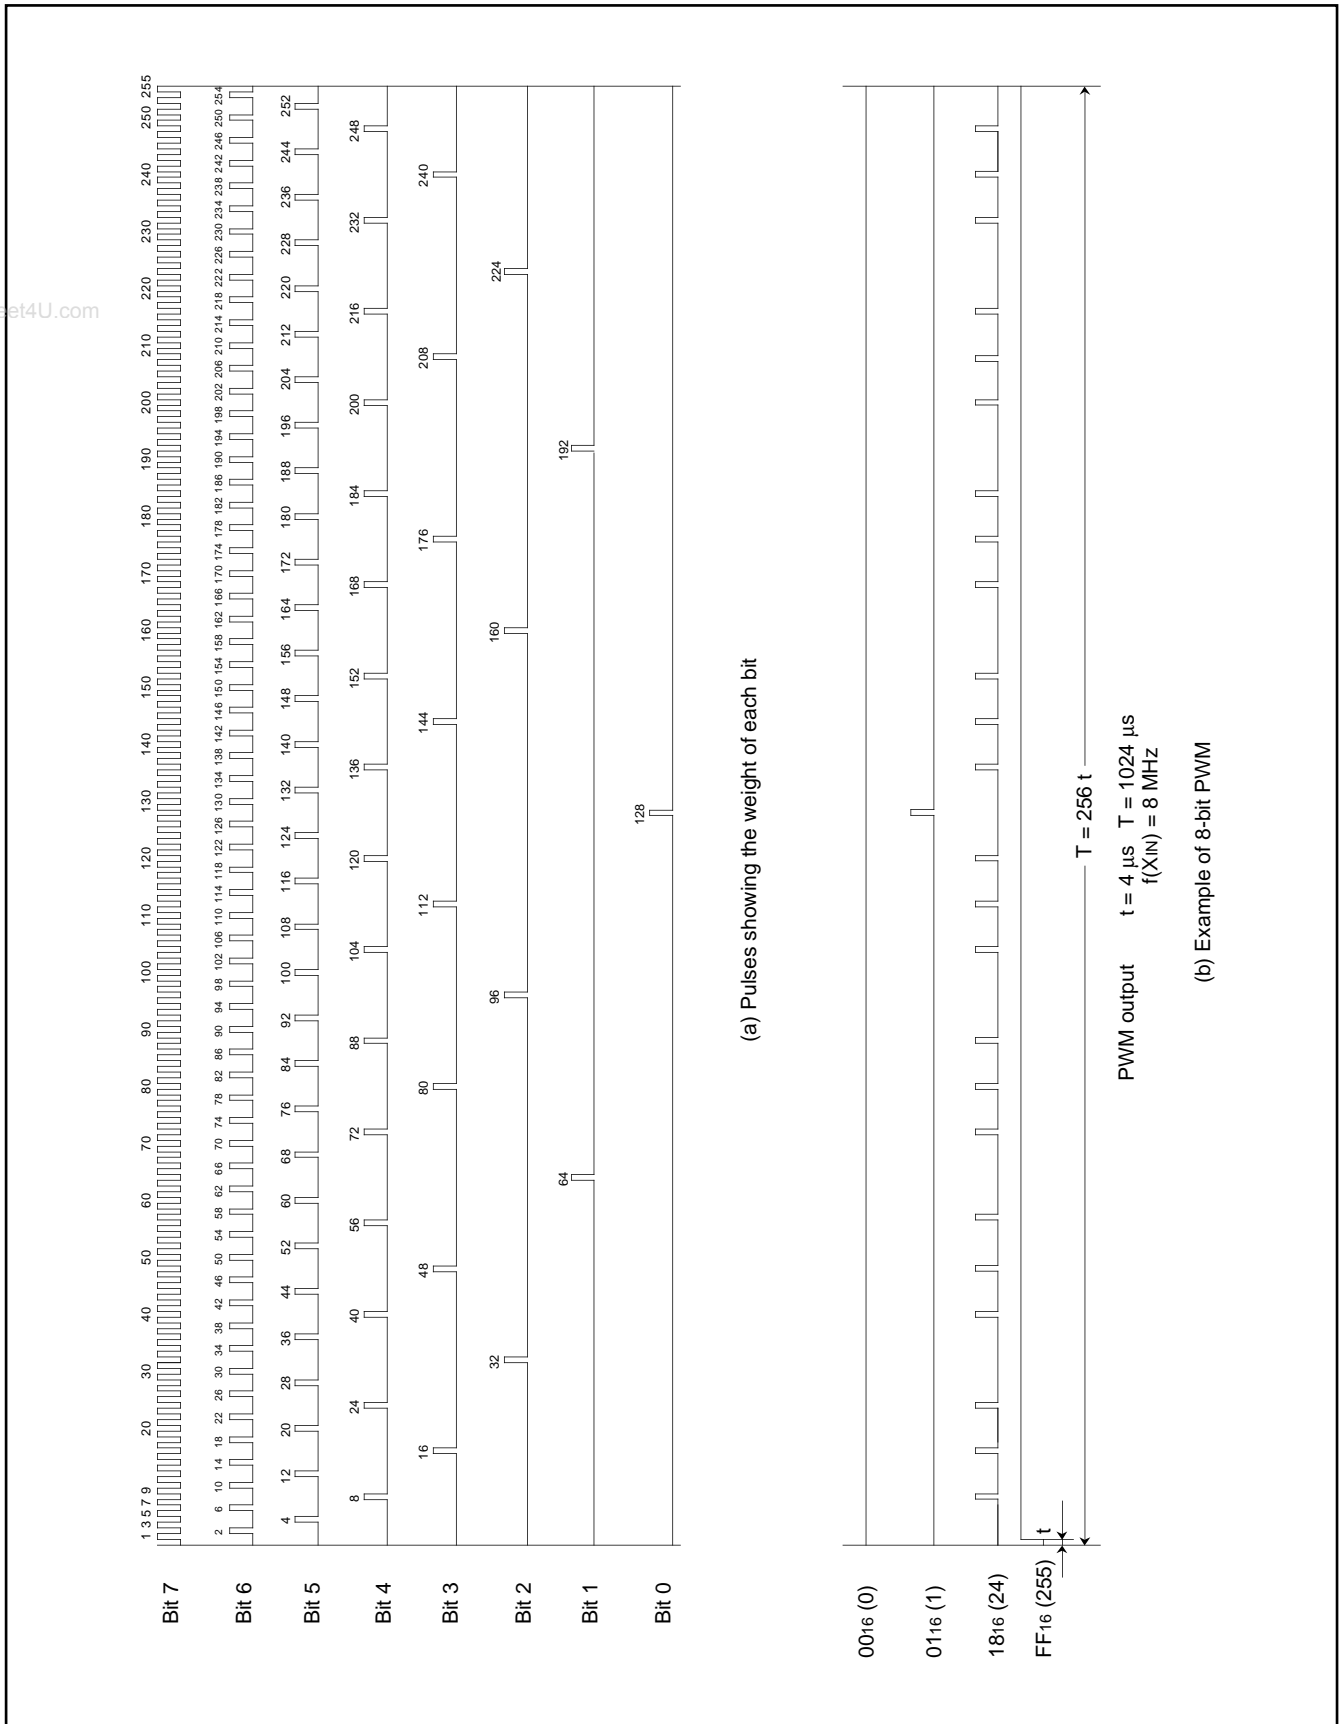

Fig. 26. 8-bit PWM timing
Figure 26 shows the 8-bit PWM timing. One cycle (T) is composed of 256 (2⁸) segments. The 8 kinds of pulses relative to the weight of each bit (bits 0 to 7) are output inside the circuit during 1 cycle. Refer to Figure 26 (a). The 8-bit PWM outputs waveform performed a OR operation of pulses corresponding to the contents of bits 0 to 7 of the 8-bit PWM register. Several examples are shown in Figure 26 (b). 256 kinds of output ("H" level area: 0/256 to 255/256) are selected by changing the contents of the PWM register. A length of entirely "H" output cannot be output, i.e. 256/256.
(4) Operating of 14-bit PWM